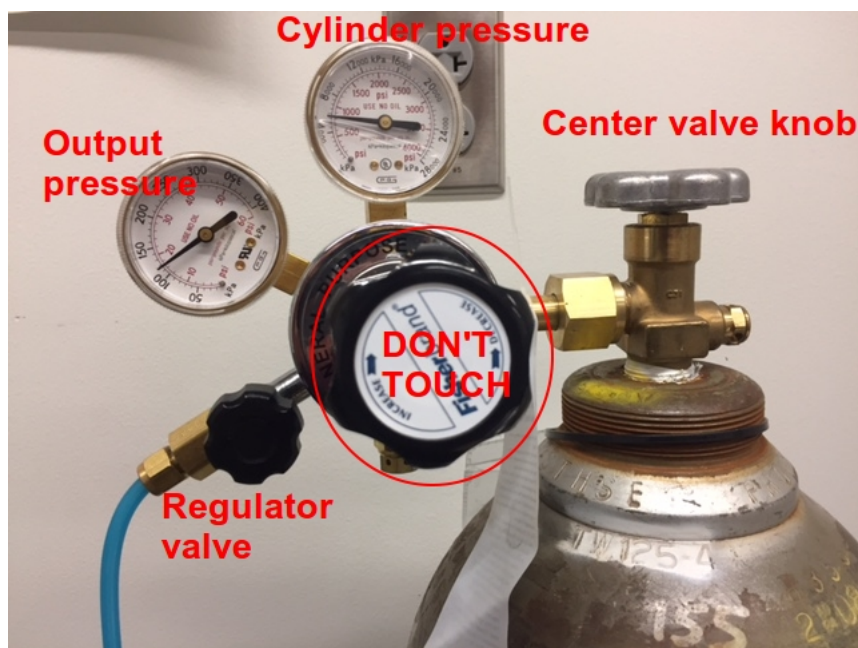

Figure 1: CO₂ tank with regulator attached. The regulator adjustment knob in the center should not be adjusted. The N₂ tank regulator is identical.
2. Check that the regulator is attached to CO₂ tank. Do not touch center regulator knob. Open both the gas cylinder and regulator exit valve completely. (Figure 1) If these are only partially opened, gas may leak from the valve.